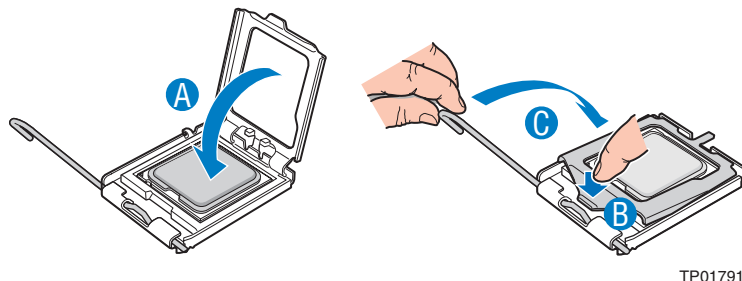

Figure 10. Closing the Load Plate and Socket Lever
10. Close the load plate all the way (see letter “A” in Figure 10). With your finger, push down on the load plate as shown (see letter “B” in Figure 10). Close the socket lever and ensure that the load plate tab engages under the socket lever when fully closed (see letter “C” in Figure 10).